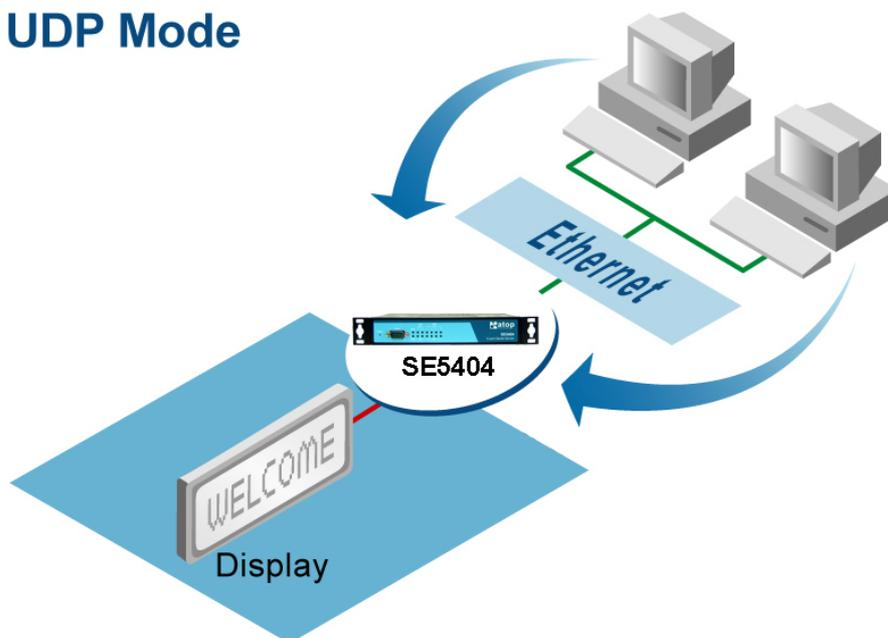

Figure 1.3 UDP Mode
**UDP Mode** : UDP is a fast but non-guaranteed datagram delivery protocol. SE5404 can be configured in a UDP mode on a TCP/IP Network to establish a connection, using unicast data to and from a serial device to one or multiple host computers (Figure 1.3).